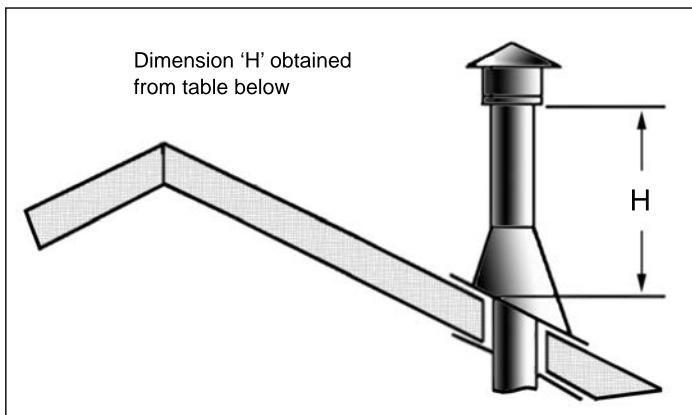

**Figure 58: Vertical Vent Termination**
- STEP 6.** Once the pipe sections have been joined, and run up through the hole in the roof, slip an elbow strap over the exposed sections, bend the support straps outwards, and push the elbow strap down to the roof level, as shown in Figure 58. Tighten the clamp around the pipe section. Use a level to make sure the pipe is truly vertical. With roofing nails, secure the support straps to the roof. Seal the nails holes heads with non-hardening mastic. Trim the excess length of the support straps that extend out beyond the edge of the flashing.
- STEP 9.** Slip the storm collar over the pipe, and push it down to the top of the roof flashing as shown in Figure 58. Use the non-hardening sealant around the joint between the pipe and the storm collar.